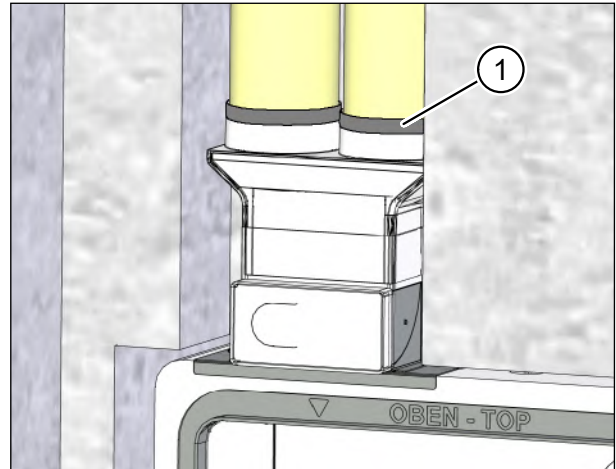

Fig. 23: Fixing a flexible pipe connection with sealing tape
- ▶ Insert the flexible pipes into the openings in the flexible pipe connection on the wall box and seal the join with a layer of sealing tape 30 mm wide (item 1 in Fig. 23) or insert sealing rings. These are available as accessories M-WRG-FR-DR75.